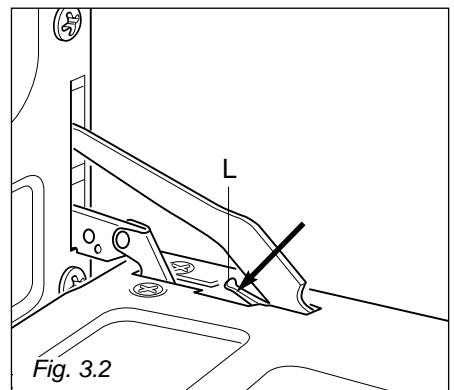

Fig. 3.2
- Push down the lever "L" fig. 3.2 and, keeping it in this position, slowly close the door in order to block the hinge.